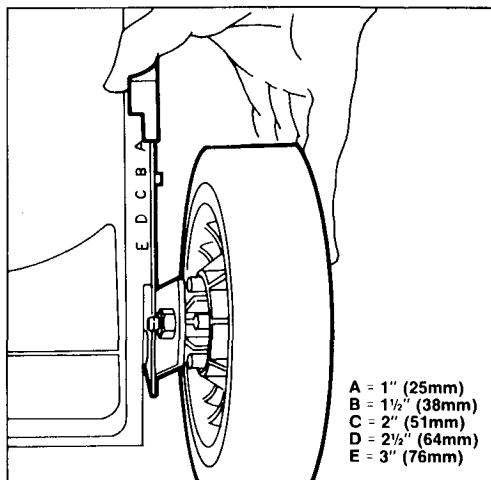

Figure 7
Five letters cast into the housing represent each graduated increment (Fig. 7).
2. For easier adjustment, lift housing up so wheel is off ground. Squeeze adjusting lever toward wheel and move them to desired setting (Fig. 7). Assure pin on adjusting lever engages notch in housing. Adjust all wheels to the same setting.